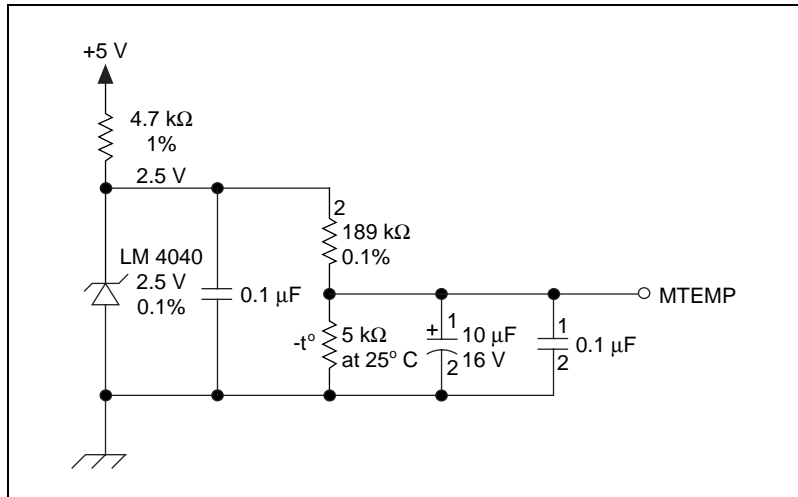

Figure 3. Temperature Sensor Circuit Diagram
National Instruments software can convert a thermistor voltage to the thermistor temperature for the circuit diagram shown in Figure 3 later in this guide. In LabVIEW, you can use the Convert Thermistor Reading virtual instrument (VI) in the **Data Acquisition»Signal Conditioning** palette. If you are using LabWindows/CVI or NI-DAQ, use the `Thermistor_Convert` function. The VI takes the output voltage of the temperature sensor, the reference voltage (2.5 V), and the precision resistance (189 k $\Omega$ ) and returns the thermistor temperature.
The circuit diagram in Figure 3 is optional information that you can use if you want more details about the SCXI-1331 temperature sensor.